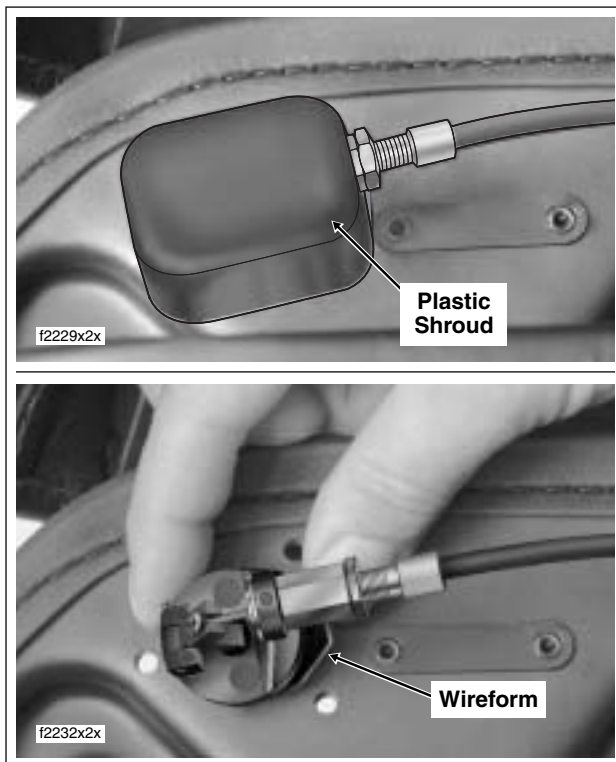

Figure 2-136. Remove Button Assembly
- Remove two screws on inboard side of saddlebag to release plastic shroud. See upper frame of Figure 2-136.
- Depress wireform and pull button from hole in saddlebag. See lower frame of Figure 2-136.
2. On the inboard side, depress wireform and slide button into sleeve. Release wireform. Gently tug on assembly to verify that wireform has engaged groove in sleeve to lock button in place. See lower frame of Figure 2-136.
3. Holding plastic shroud with the relief positioned over the cable adjuster, install two screws from inboard side of saddlebag. See upper frame of Figure 2-136.
2. Remove two screws on inboard side of saddlebag to release plastic shroud. See upper frame of Figure 2-136.
6. Holding plastic shroud with the relief positioned over the cable adjuster, install two screws from inboard side of saddlebag. See upper frame of Figure 2-136.